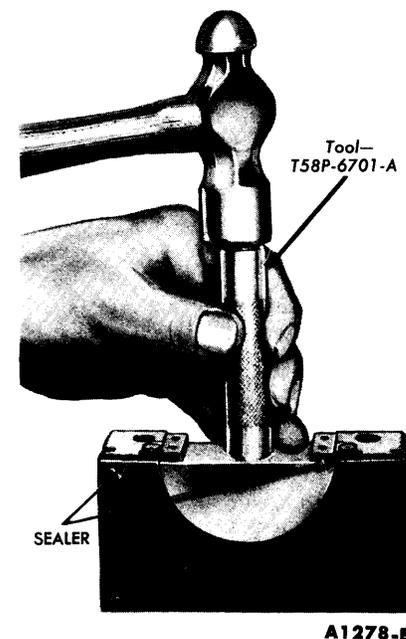

FIG. 57—Seal To Rear Bearing Cap Installation
4. Install a new rear journal oil seal in the rear main bearing cap (Fig. 57). After installation, cut the ends of the seals flush.
5. Apply a thin coating of oil resistant sealer to the rear main bearing cap at the rear of the top mating surface (Fig. 57). Do not apply sealer to the area forward of the side seal groove. Install the rear main bearing cap. Torque the cap bolts to specifications.